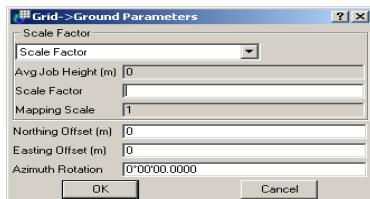

Figure 3-92. Grid->Ground Parameters Dialog Box
3. On the **Grid->Ground Parameters** dialog box, enter the transformation parameters (Figure 3-92).